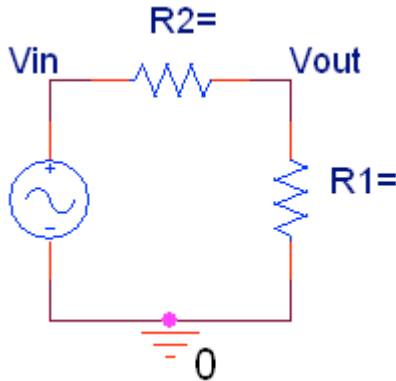

Figure 9: Voltage Divider to Reduce Function Generator Output to 20mV peak-to-peak
2. Connect the point labeled “Vout” in Figure 9 to one of the inputs of the stereo amplifier. Attach a speaker to the corresponding output channel, and play all three generated waveforms through the amplifier, varying the frequency (R7) and amplitude (R8) knobs to see how they affect the output signal you hear. Have the TA listen to all three outputs and initial below: